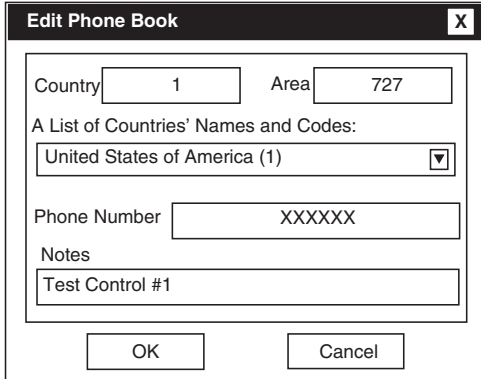

Figure 9-11 Edit Phone Book Dialog Screen
- b. Select **Add Number**, GE-2029A will display the **Edit Phone Book** dialog screen (Figure 9-11).